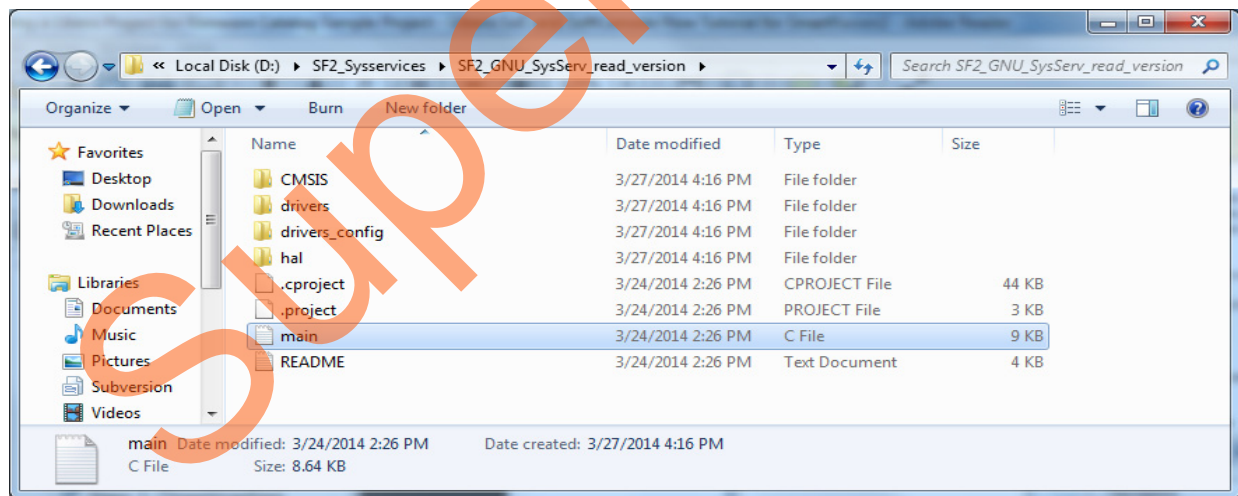

Figure 28 • Sample Project main. c File
7. Go to the location where the SoftConsole sample Firmware catalog project is saved, as shown in Figure 28.